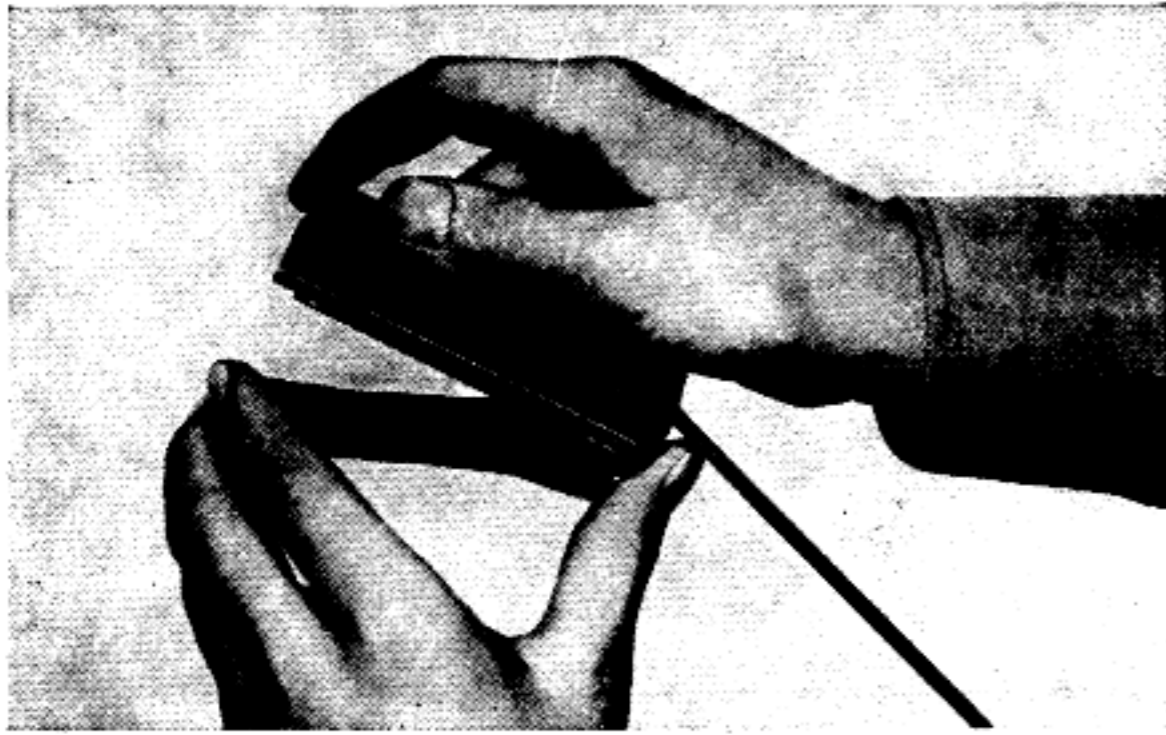

Fig. 19
Disengage the fore part of the breech block from the slide and continue to separate with a levering movement against the rear part of the breech block, keeping the thumb on the rear end of the firing pin (fig. 19).
- Replace the breech block in the slide, inserting the rear part obliquely in the slide (fig. 19). Exert pressure on the breech block so that the firing pin spring is slightly compressed and the breech block is swung downwards into its correct position in the slide.